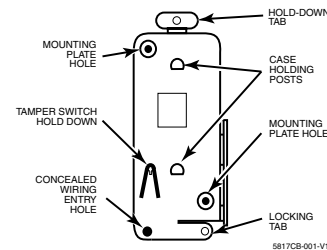
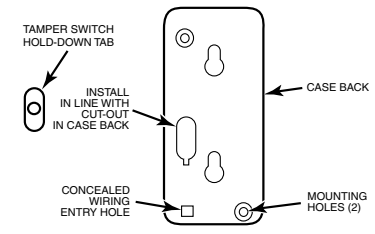
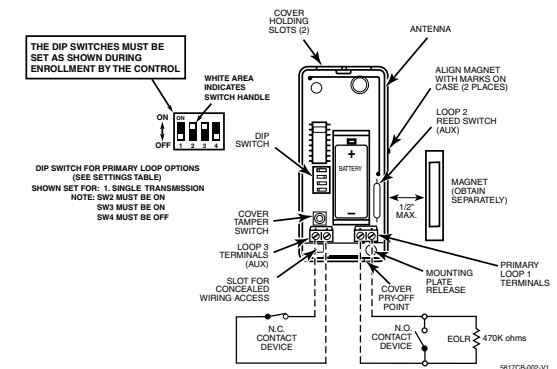

Figure 1. Mounting Plate
Figure 2. Case Back
Figure 3. 5817CB Transmitter, Top Cover Removed
*The 5817CB is supplied with a tamper switch hold-down tab (connected to the mounting plate as shown in Figure 1), for use when the wall mounting plate is not needed. Remove the tab with diagonal cutting pliers.*
- 2. Disengage the supplied mounting plate from the unit** by inserting the blade of a small screwdriver into the mounting plate release hole (see Figure 3) and pushing the locking tab out (see Figure 1). Slide the mounting plate downward along the case back. **Note:** For this application, the alignment guide strip along one edge of the mounting plate serves no function and may be broken away, if desired.
- 4. Install the mounting plate**, with its case-holding posts pointing up, in the location determined. Use two flat head dry-wall screws. **Note:** To ensure proper operation of the unit's back tamper (when it is separated from the mounting plate), the screws must be anchored to a wall stud or other solid wood material. **If the mounting plate will not be used**, make note of the location of the tamper switch hold-down as shown in Fig. 1 for the proper placing of the hold-down tab in Fig. 2.
7. In the area that was **previously** marked for the location of the mounting plate, (step 4), install the hold-down tab with a 5/8" flat head dry-wall screw. The tab must be aligned with the corresponding slot in the case back as shown in Figure 2. The tab as well as the case back must be anchored to a wall stud or other solid wood material.
- a. In order for the control panel to enroll the transmitter, the DIP switches **must** be set to OFF – ON – ON – OFF (see Figure 3).
Connect the loop wiring to the unit's terminals before installing the battery (see Figure 3).
2. **Observe correct polarity and insert the battery** provided into the battery holder (see Figure 3). *Take care not to bend the antenna.*